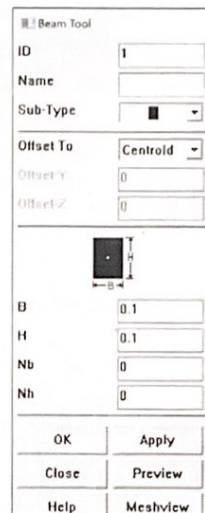

Figure 4-1-2 Defining Section Properties using the Beam Tool.
- Ensure that a rectangle is shown as the Sub-Type (Figure 4-1-2)